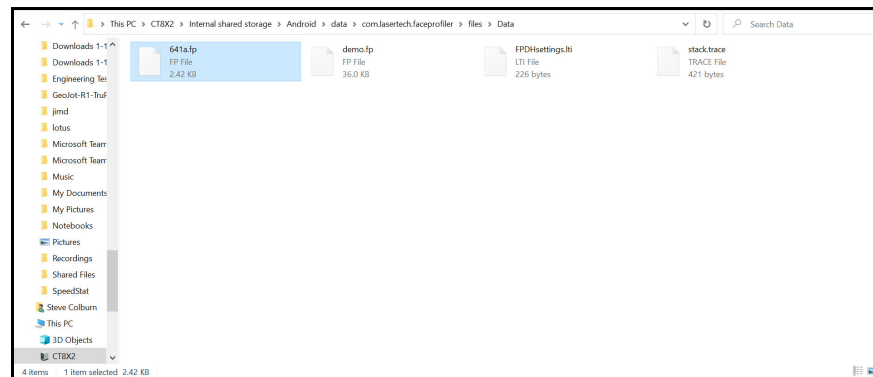

Figure 73
3. Click the Face Profiler Reports desktop icon to launch the program (Figure 73).